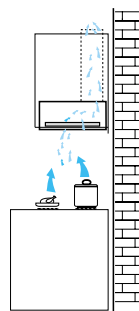

Fig. 2
- The air is filtered through a charcoal filter and returned to the kitchen. **Fig. 2.**